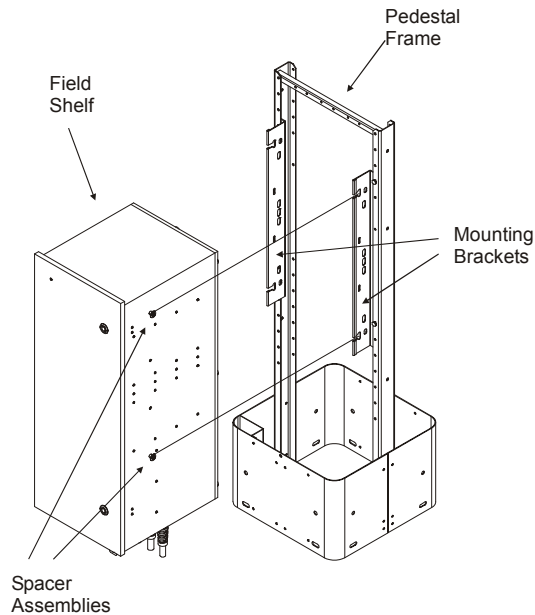

Figure 14. Mounting the Field Shelf
2. Lift the Field Shelf onto the mounting brackets. Slide the spacer assemblies into the slots on the mounting brackets to the pedestal (**Figure 14**).